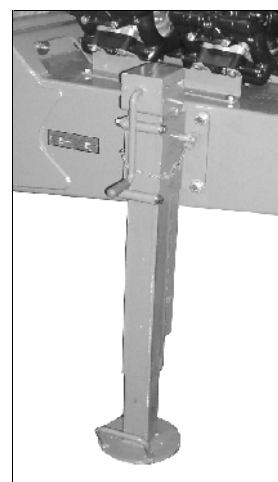

Fig. 42
- Jack lowered (Fig. 42) with machine unhitched.